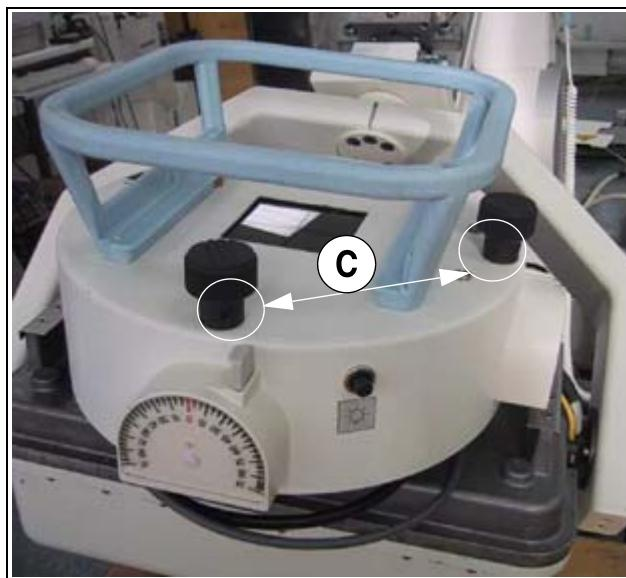

Fig. 85: Collimator knobs
- Remove the two adjustment knobs of the collimator (2 mm Allen wrench) (C/Fig. 85 / p. 89).